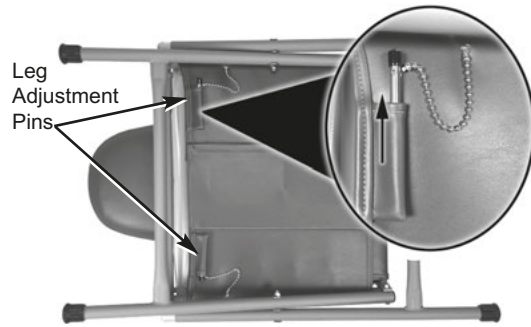

Figure 1 - Leg Adjustment Pin Location
2. Rotate the chair up onto one side and remove the leg adjustment pins from their storage pouch underneath the chair seat. (Fig. 1)
1. **Seat Height-** The ADC-01P RED chair seat height can be set at any of the five preset settings. Without a patient in the chair, put your toe on one of the front chair legs and lift up slightly on the chair seat. While lifting and holding seat, remove the leg adjustment pin from the right and left side. Align link with tube hole in any of the five positions and lock in place by inserting the pin and chain assembly. (see Fig. 1)